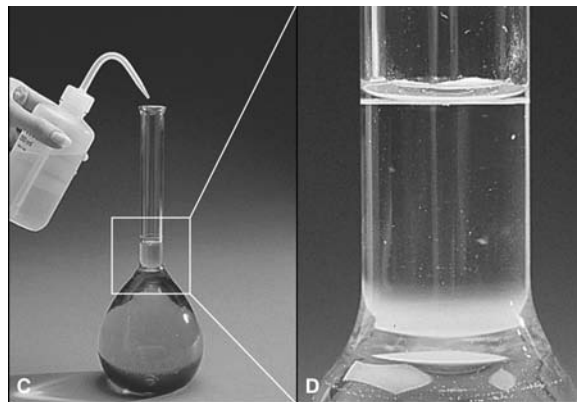

Figure 4: Proper dilution of a solution by filling a volumetric flask to the line
6. Based on your calculations from Part A, pipet the appropriate volume of the 1.00×10^{-3} M phosphate stock solution into a 25-mL volumetric flask. Dilute the stock solution by filling the volumetric flask until the meniscus reaches the mark (Figure 4).
Suppose that the container on the left in Figure 4 has a volume of 16 L (V_1) and an initial internal and external pressure of 1 atm (P_1). When an external pressure of 2 atm (P_2) is applied to the system, at constant n and T , the volume of the container decreases to 8 L (V_2) as calculated using Equation 3. As the external pressure increases, the distance between the gas particles decreases and the volume decreases. The pressure of the gas increases because the frequency of collisions between particles and with the container increases with the smaller space between particles. This relationship should be intuitive. As you increase the external pressure by squeezing a capped, empty plastic soda bottle, what happens to the volume of the gas inside the bottle?